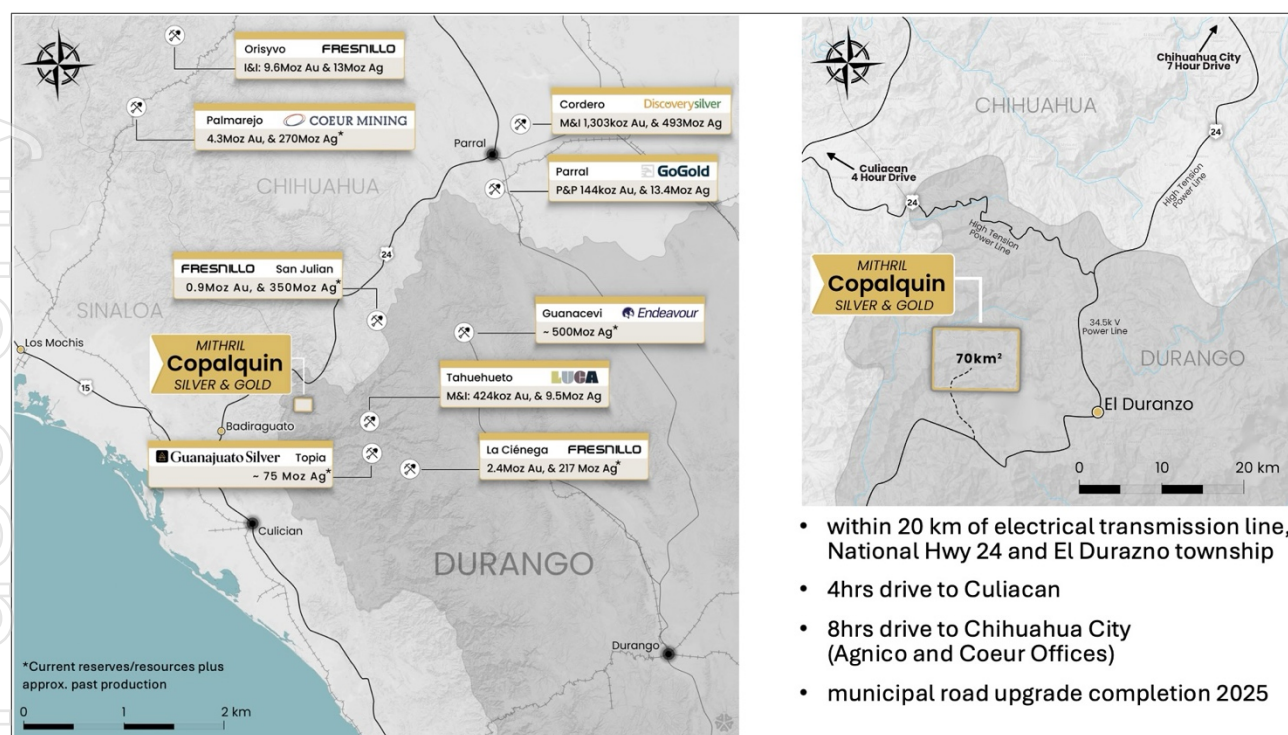

Figure 1 Copalquin District location map, locations of mining and exploration activity and local infrastructure
**Melbourne, Australia and Vancouver, Canada** - Mithril Silver and Gold Limited ("Mithril" or the "Company") (TSXV: MSG) (ASX: MTH) is pleased to provide high-grade maiden drill results for a new drill discovery at the Target 2 area in Mithril's Copalquin silver and gold district property, Durango State, Mexico (**Figure 1**).